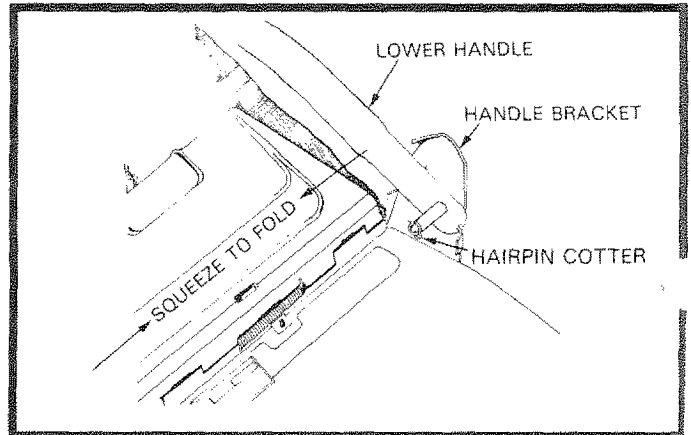

FIG. 20
- To fold, squeeze the bottom ends of the Lower Handle toward each other until the Lower Handle clears the Handle Bracket, then move Handle forward (See Fig. 20).